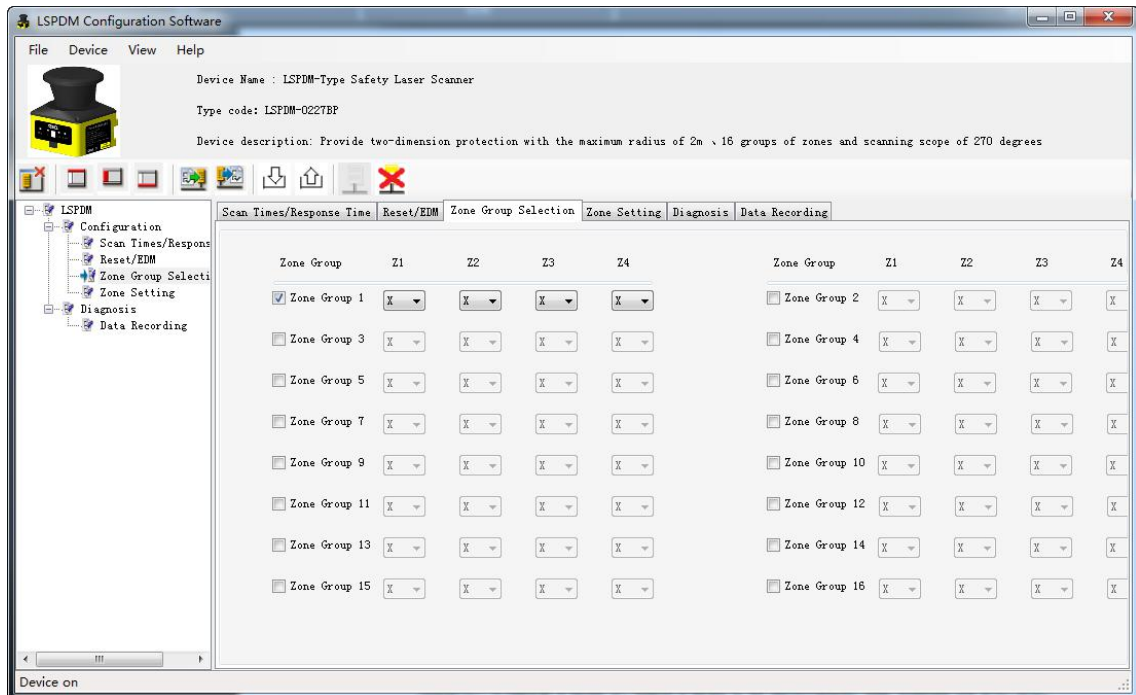

Fig.3.3.3 Initial zone group selection setting
Step①: Switch to the 【Zone Group Selection】 tab, as shown in Fig.3.3.3.